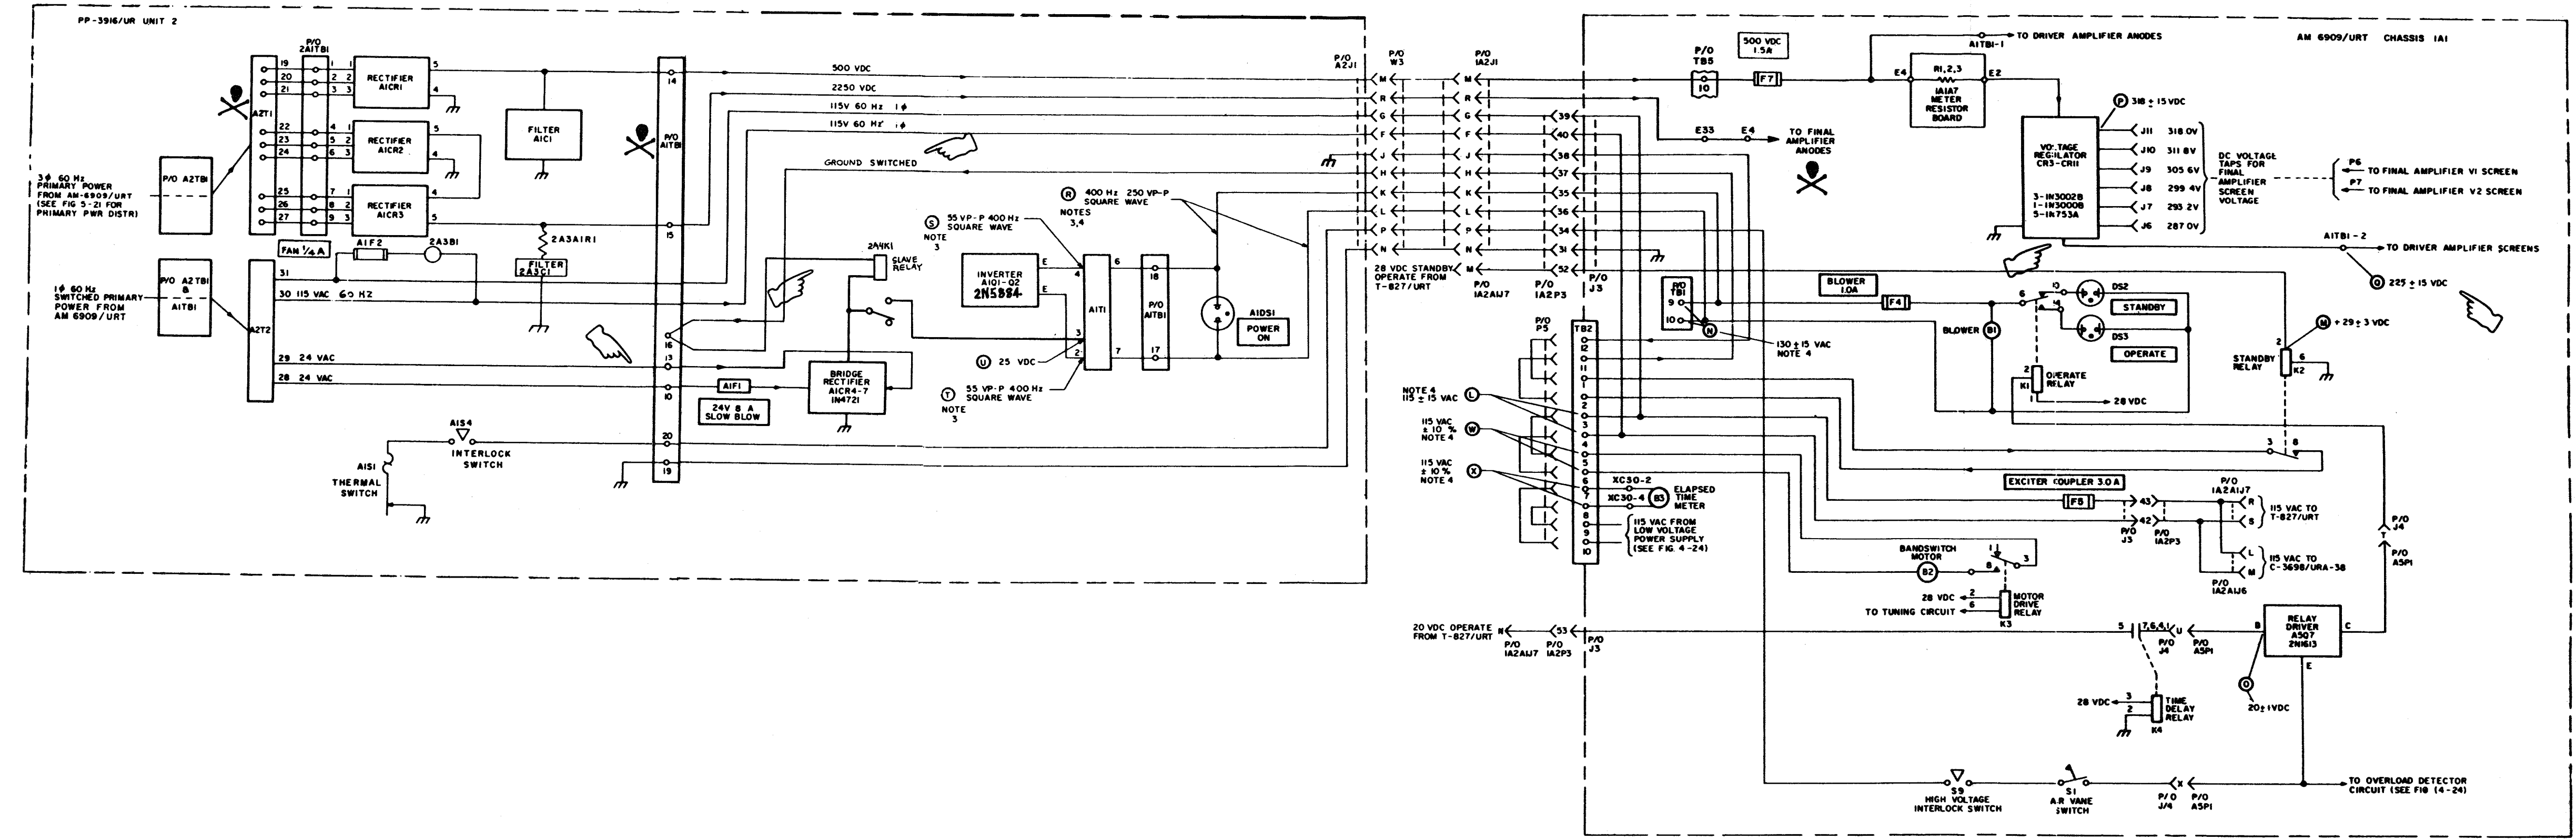

Figure 4-25. 60 Hz High Voltage Distribution, Servicing Block Diagram
- c. 60 Hz High Voltage Distribution, Servicing Block Diagram, Figure 4-25.
- (1) Multimeter AN/PSM-4()